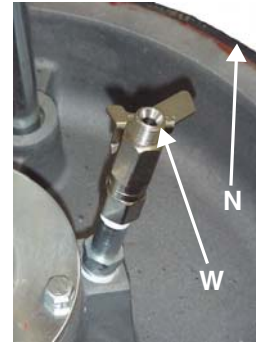

FIG. 9
8. Open the drum vent valve (W), FIG. 9.
11. After the ram plate seals contact the drum, adjust the ram air regulator (R) to about 30-50 psi (207-345 kPa, 2.1-3.4 bar).
12. When the ram stops and material fills the bleed port (or air stops bleeding out), close the drum vent valve (W), FIG. 9.